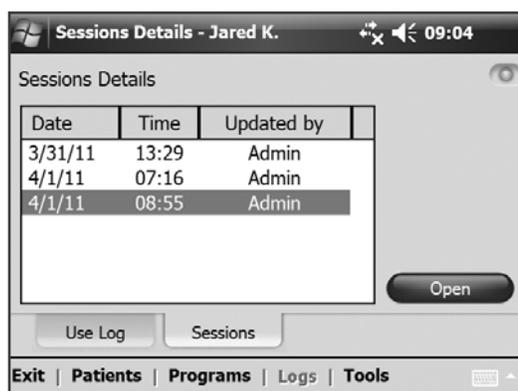

Figure 8-38: Sessions List window.
2. Press the **Sessions tab**. The Sessions List window will open, showing the date, time, and system user for each saved session. See Figure 8-38.